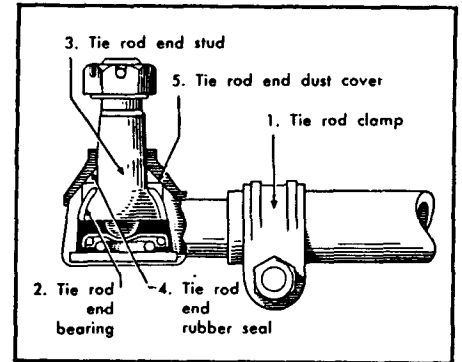

Fig. 2
TIE ROD ENDS are the self-adjusting type. The ground steel bearing, (2) Fig. 2, is located between the stud (3) (which is prevented from loosening or rattling by the tension spring) and the tie rod end forging. A curved steel dust cover (5) and a rubber seal (4) provide a dustproof double seal of the unit.